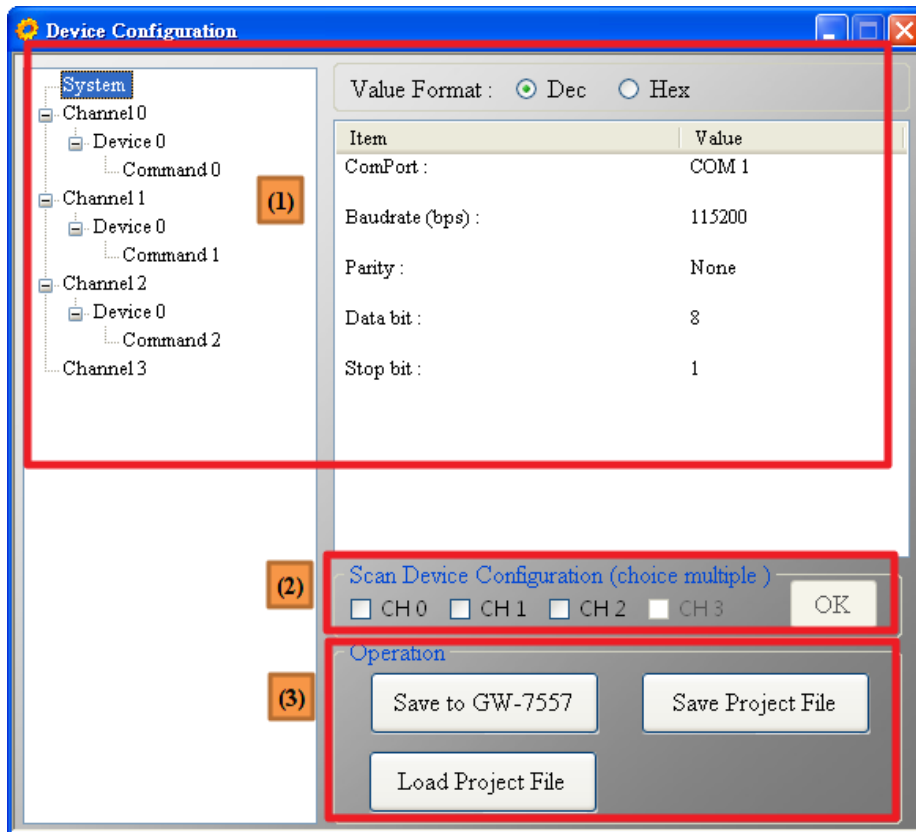

Figure 58 Device Configuration window
In this window, it will show the configuration of the GW-7557 module. The user can setup the configuration of the GW-7557 module here. This window has 3 parts, they are (1) The node information, (2) Scan Device Configuration, and (3) Operation buttons, as shown in Figure 58.
(1) The node information